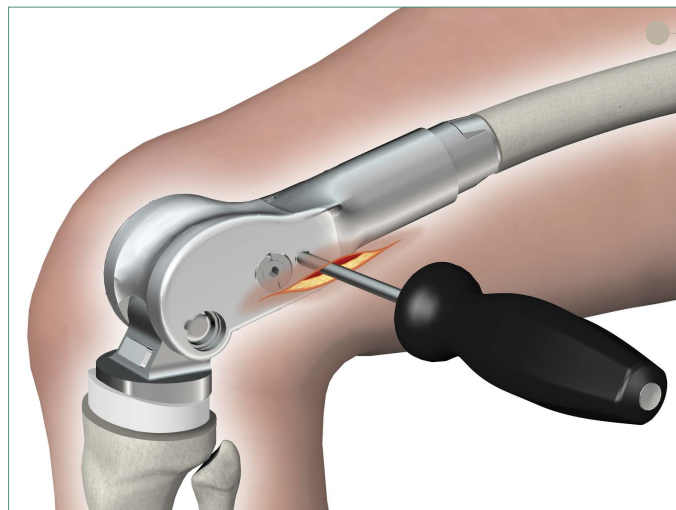

Figure 35
- A lateral approach is utilized. For the initial expansion, a 1-2cm incision is made as close to the locking and expansion screws as possible (**Figure 35**). For subsequent expansions, the incision should be made along the original incision site. The locking and expansion screws can be located by palpation or fluoroscopic imaging.